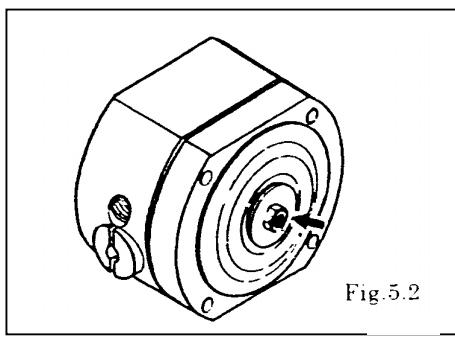

Fig.5.2
- Remove the nuts on both sides of the centre rod. [Fig. 5.2]